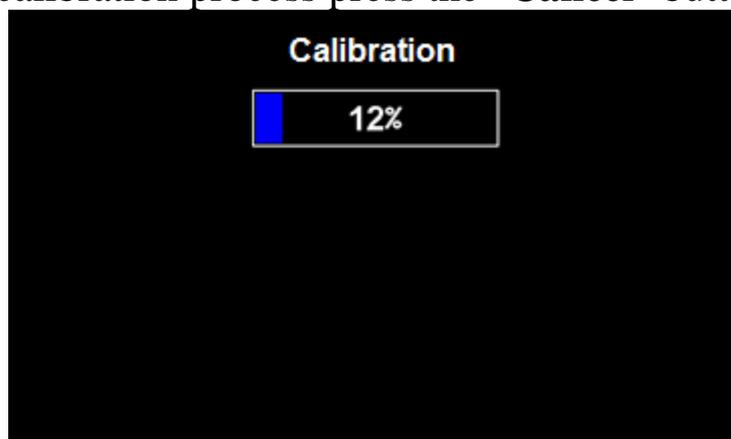

Figure 15 Dispenser calibration
9.2.6.5. Dispenser calibration - allows calibrating the parameters "**Wheel, pulses**" and "**Dispenser, pulses**" of the selected dispenser (one or all at once). In order to perform the calibration procedure, select the menu item "**Dispenser calibration**". Use the "**Plus**" and "**Minus**" buttons to set the number of dispenser you want to calibrate (or set it to "**ALL**" to calibrate all dispensers at once). Press the "**Menu**" button. You will see the dispenser calibration screen (see Figure 15). It is necessary to perform the rotation of the wheel that drives the dispenser until the calibration process reaches 100%. In this case the message "**Stop rotation!**" will appear. Now you can stop the rotation and wait for the message "**Done**". Now the calibration process is complete. If you want to cancel the calibration process press the "**Cancel**" button.